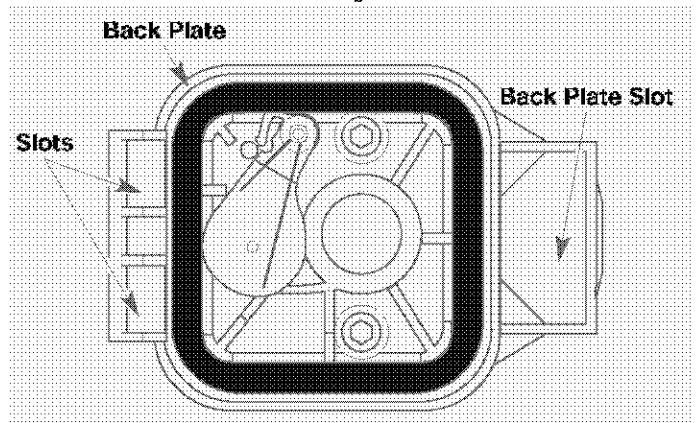

Fig. 49
7. Reinstall the air filter cover. Position the hooks on the left side of the air filter cover into the slots at the left side of the back plate (Fig. 49).
8. Swing the cover to the right until the tab on the air filter cover snaps into place in the slot on the back plate (Fig. 49).